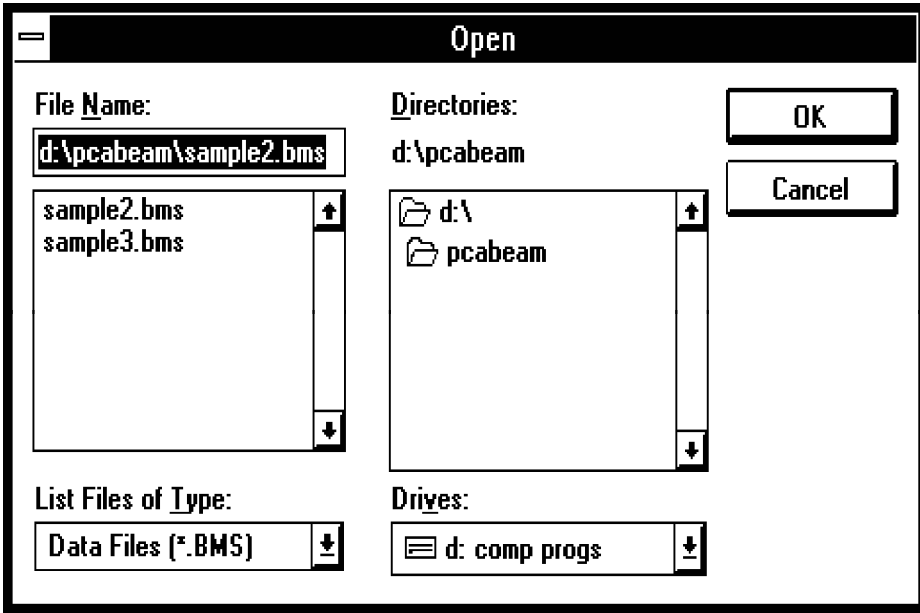

Figure 4-1—The Open dialog box
- From the **File** menu, select **Open**. The dialog box of Figure 4-1 appears.